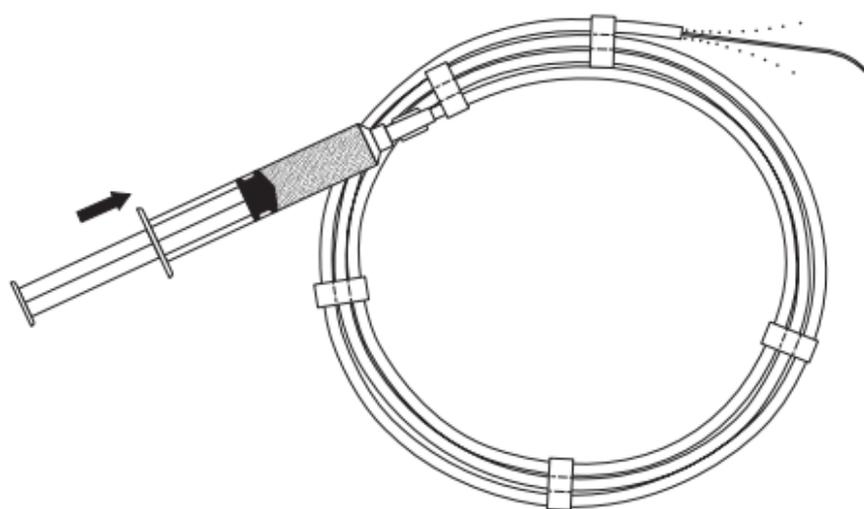

Fig. 1
2. Inject enough solution to wet the wire guide surface entirely. (**Fig. 1**) This will activate the AQ coating, making the wire guide surface very lubricous.